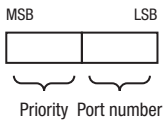

Figure 42: Port Identifier
- ▶ If multiple paths with the same root path costs lead from one bridge to the same bridge, the bridge further removed from the root uses the port identifier of the other bridge as the last criterion (see figure 42). In the process, the bridge blocks the port that leads to the port with the numerically higher ID (a numerically higher ID is the logically worse one). If 2 ports have the same priority, the port with the higher port number has the numerically higher ID, which is logically the worse one.